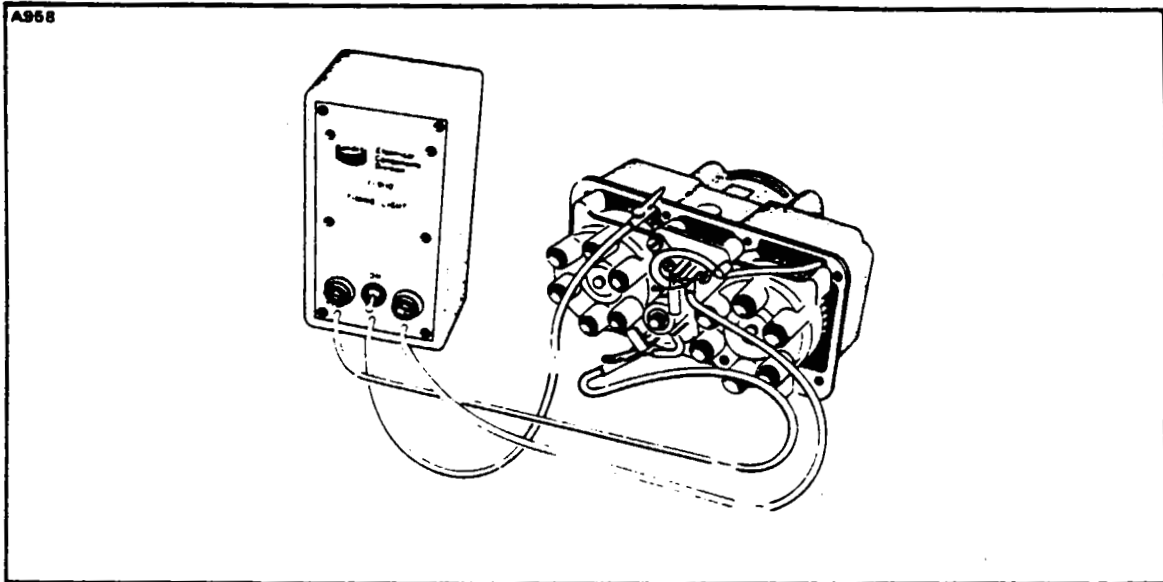

Figure 8-15a. Timing Light Connected to Magneto and Breakers
k. Connect the red timing light lead to the left breaker terminal and the green lead to the right main breaker terminal. (Refer to Figure 8-15a.)